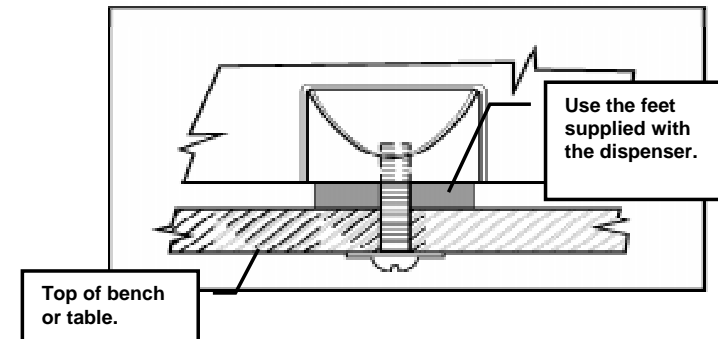

Figure 11 - Mounting the Dispenser to a Bench Top
5. Insert the 10-24 screws through the bottom of the bench, through the rubber feet, into the threaded holes in the bottom panel. See Figure 11.